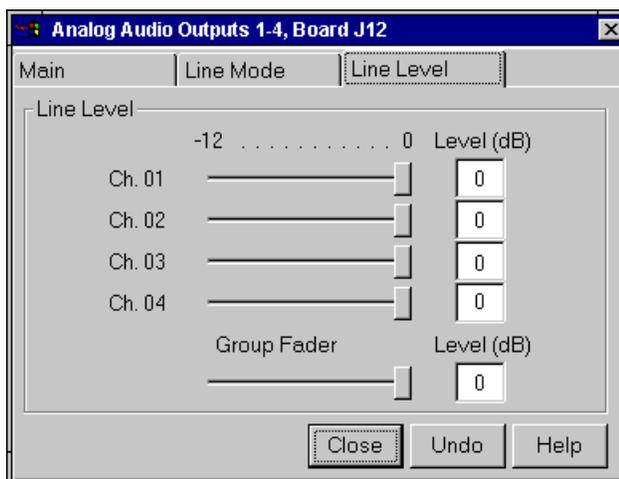

**Figure 33.** Analog Audio Output dialog box, Line Mode tab
1. In the Analog Audio Output dialog box, click the Line Mode tab (Figure 33).